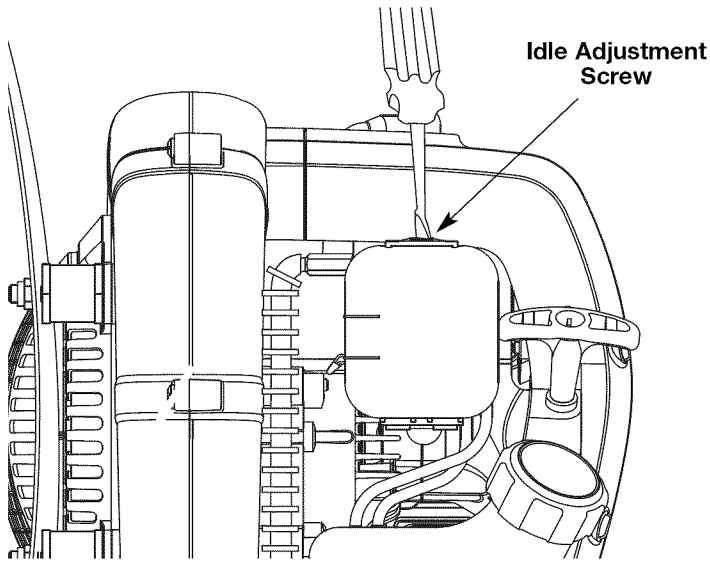

Fig. 24
The idle speed of the engine is adjustable. An idle adjustment screw is between the air filter cover and the engine starter housing (Fig. 24).
2. Release the trigger lock and let the engine idle. If the engine stops, insert a small phillips in between the Air Filter Cover and the Engine Cover (Fig. 24). Turn the idle speed screw in, clockwise, 1/8 of a turn at a time (as needed) until the engine idles smoothly.